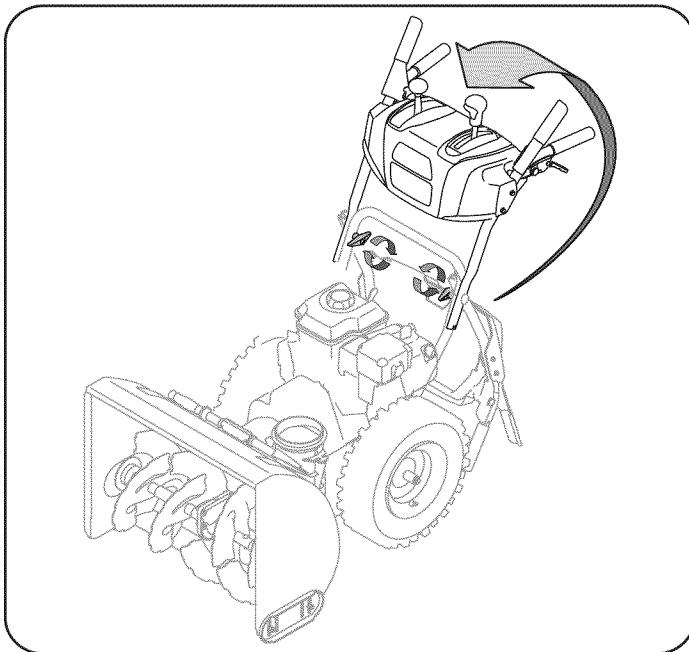

Figure 1
- b. Pull up and back on upper handle as shown in Figure 1. As you are raising the handle upward, make sure that both ends of the center cable are positioned properly in the brackets. Align upper handle with the lower handle.
3. Place chute control lever in the centered position. See Figure 1.